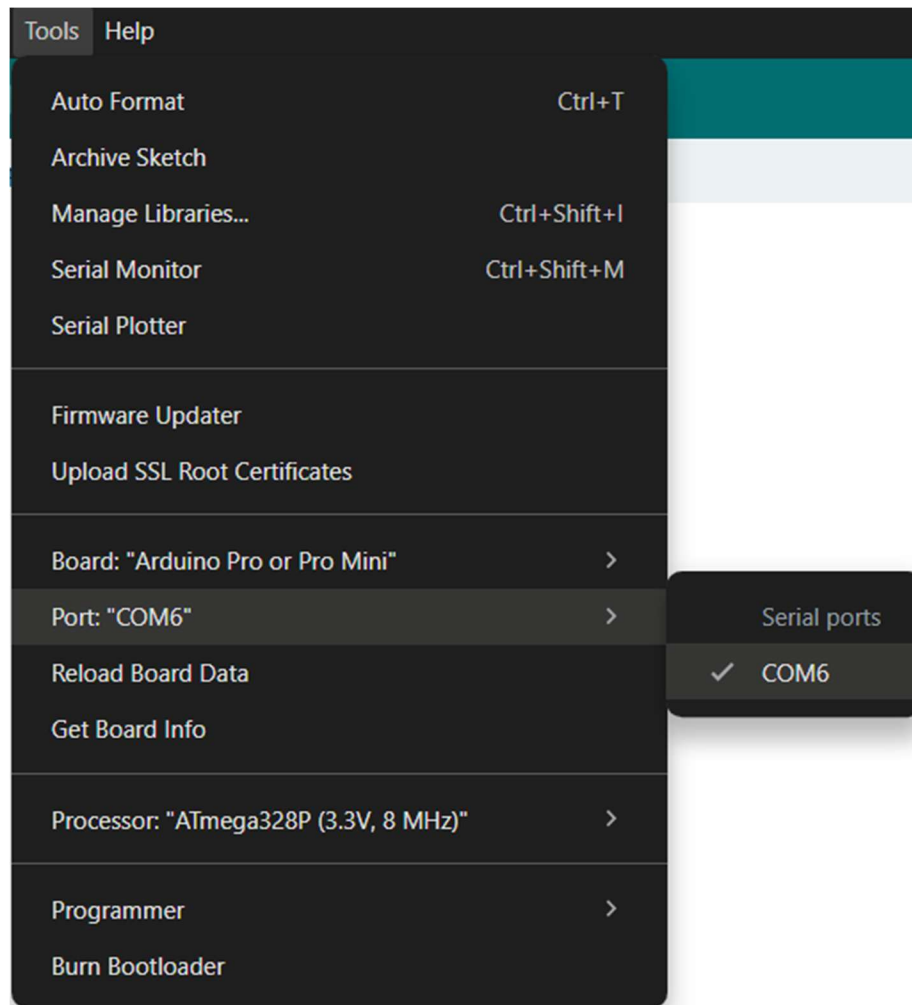
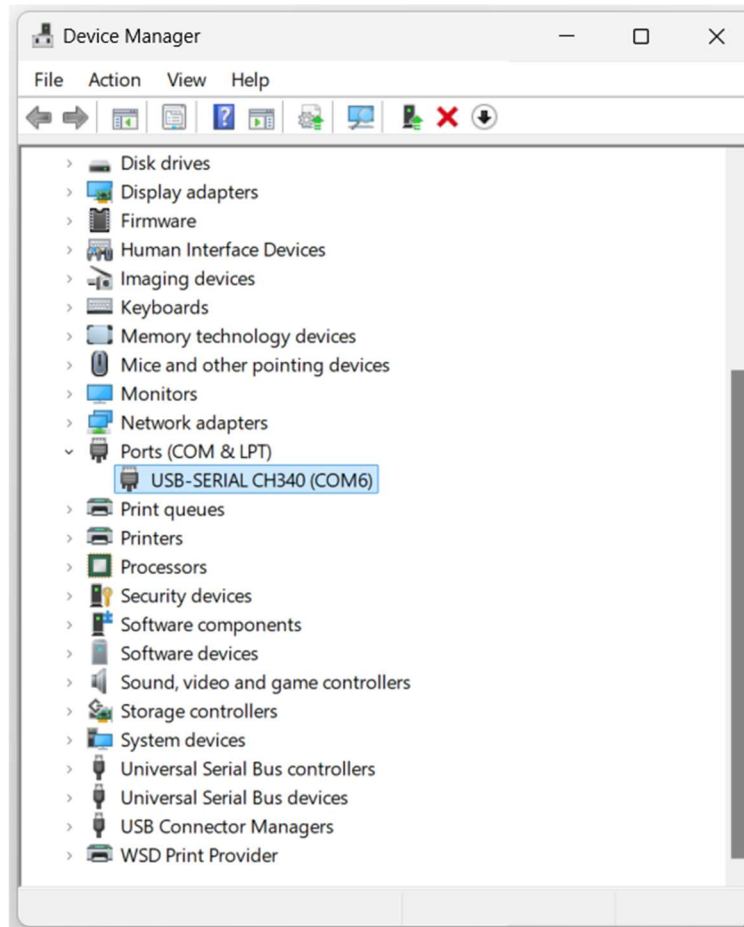

Figure 14: Port selection for the Nano Flip 3V3.
Figure 15: Device Manager, Ports.
- **Port selection:** Under “Tools” and “Port:” select the port that is being used with the USB-C cable that was inserted to the computer, as shown in Figure 14. To see the port being used open the Device Manager under section “Ports (COM & LPT)” or similar. The correct port should be labelled with “CH340”. As an example, see Figure 15. There are several reasons why this port or even the entire Ports section may not be showing. See Section 6.1 for details on CH340 driver installation, or Section 6.4 for troubleshooting help.